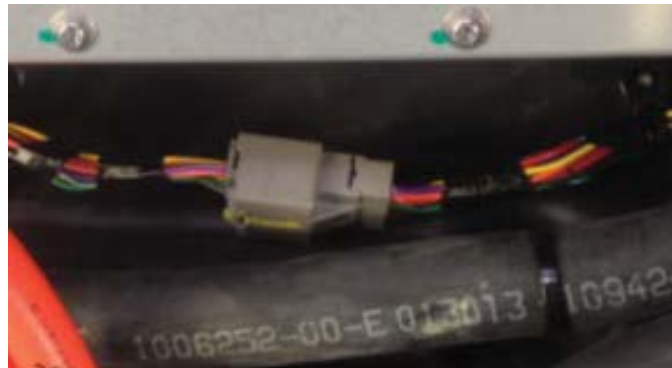

Figure 9 (X976, behind master charger)
- X976 behind the master charger (Figure 9)
- **Subsystem:** Connector X976 in the HVIL harness, under the rear seat (Figure 9).